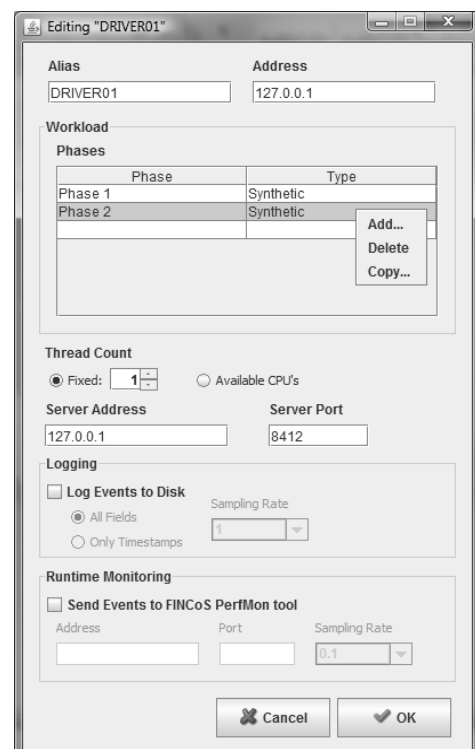

Figure 2.2: Driver Configuration
To configure a new Driver, select 'New...' from the 'Drivers' menu. The "New Driver" Dialog will appear as in Figure 2.2. A Driver configuration has the following parameters:
- ✓ Workload – A set of phases, each with its own workload characteristics (we will talk more about workload parameters next). Each Driver must have at least one execution phase. You can add, delete and copy phases by right clicking the 'phases' table as shown in Figure 2.2;